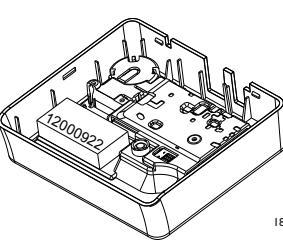

Figure 3: Preparing the panel
1. On the panel, remove the foam pad (12000922) and apply the foam pad provided in the standalone communicator cellular kit. See figures 3 and 5.